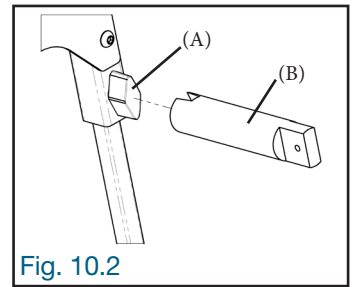

Fig. 10.2
NOTE: If you have difficulty reaching or tightening a locking knob (A) for adjustment, use the tightening tool (B) provided for this purpose (Fig. 10.2).